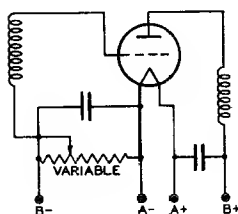

Fig. 40
**Grid voltage variation** for the r-f amplifier stages is a convenient and frequently used method for controlling receiver volume. The variable voltage supplied to the grid is obtained from a bleeder circuit by means of a potentiometer; by the self-bias method using a variable resistor; or, with automatic volume control (avc), from a bleeder circuit by means of changes in bleeder current caused by the avc tube. In any case, it is important that the control be arranged so that less than the minimum recommended grid-bias voltage cannot be applied to the grid. This requirement may be met by a stop on the potentiometer, by a fixed resistance in series with the variable section, or by a fixed cathode resistance in addition to the regulating resistor. See Figs. 40 to 42.